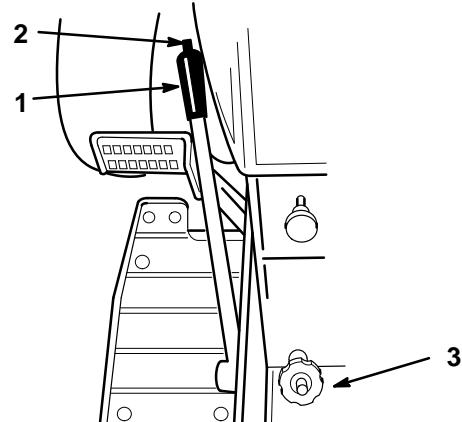

Figure 14
The attachment lift lever (Fig. 14) is used to raise and lower various attachments.
The Dial-A-Height control (Fig. 14) is used to limit the downward travel of attachments other than mowers. For example, use the Dial-a-Height to hold the blade or snowblower above a gravel drive to prevent picking up stones or hold the tiller at a selected depth. For mowing, turn the Dial-a-Height fully counterclockwise until the knob contacts the plastic thread cap, so the mower can move through its full range of travel. Use the mower's height control to set cutting height. To use the Dial-a-height:
1. Raise the attachment lift lever: Refer to Raising Attachments. In the raised position the Dial-A-Height knob (Fig. 14) can be rotated to change the stop location. Turn right to raise and left to lower the height of the attachment.